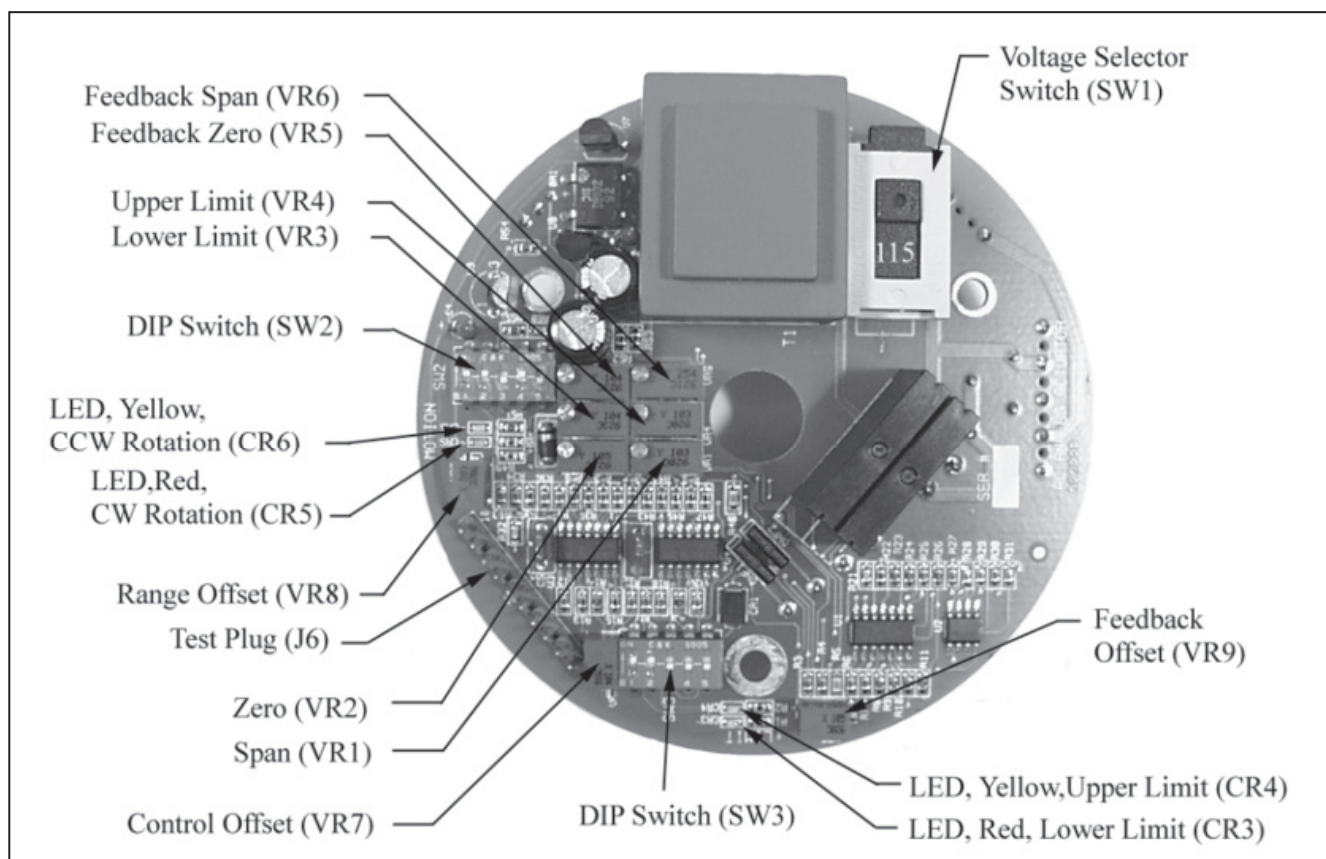

Figure 12. Circuit Board, Top
3. Carefully pull two-position connector J4 from circuit board (Figure 4). Connect HI-blk and LO-wht wires to terminal block connector J4 (Figure 12). Reconnect connector J4 to circuit board.